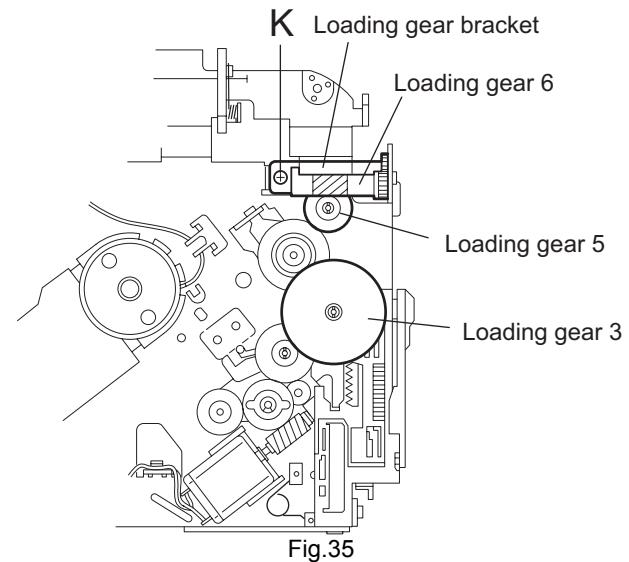
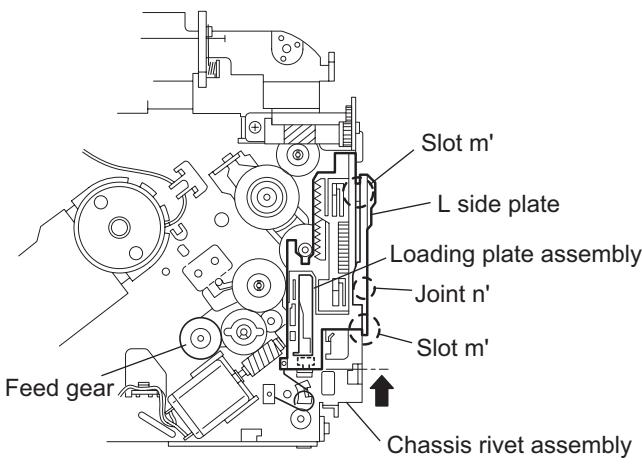
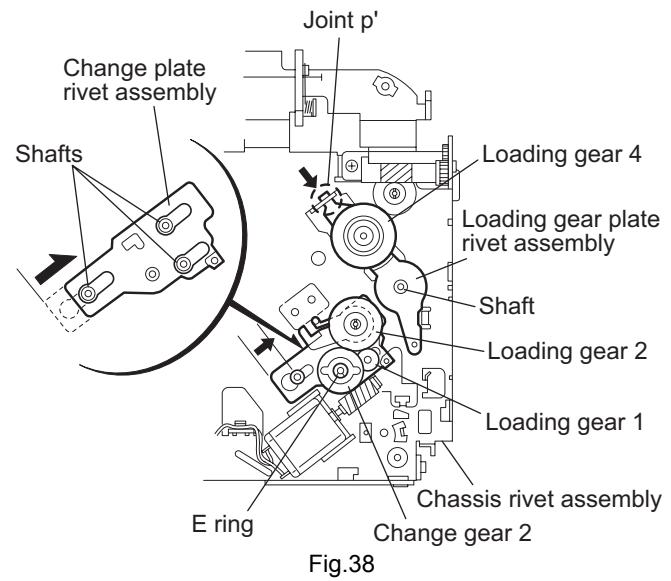

Fig.35
Fig.37
Fig.38
(See Figs.35 and 36)
(See Figs.37 to 40)
- Pull out the loading gear 3. (See Fig.35.)
(1) Pull out the feed gear.
(2) Move the loading plate assembly in the direction of the arrow to release the L side plate from the two slots m' of the chassis rivet assembly. (See Fig.37.)
(3) Detach the loading plate assembly upward from the chassis rivet assembly while releasing the joint n'. Remove the slide hook and loading plate spring from the loading plate assembly.
(4) Pull out the loading gear 2 and remove the change lock lever.
(5) Remove the E ring and washer attaching the changer gear 2.
(6) The changer gear 2, change gear spring and adjusting washer come off.
(7) Remove the loading gear 1.
(8) Move the change plate rivet assembly in the direction of the arrow to release from the three shafts of the chassis rivet assembly upward. (See Fig.38.)
(9) Detach the loading gear plate rivet assembly from the shaft of the chassis rivet assembly upward while releasing the joint p'. (See Figs.38 and 40.)
(10) Pull out the loading gear 4.